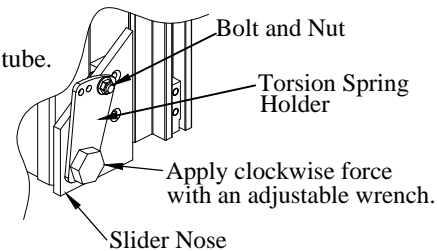

Figure 3: Passenger side torsion spring hardware.
Use Method #3 if the platform is equipped with a torsion spring holder that is the same as the replacement (Figure 3).
Use an adjustable wrench (Figure 3).
Continue to hold clockwise torque on the torsion spring holder (Figure 3).
7. **PULL** the passenger side torsion spring holder out of the platform and slider nose (Figure 3).